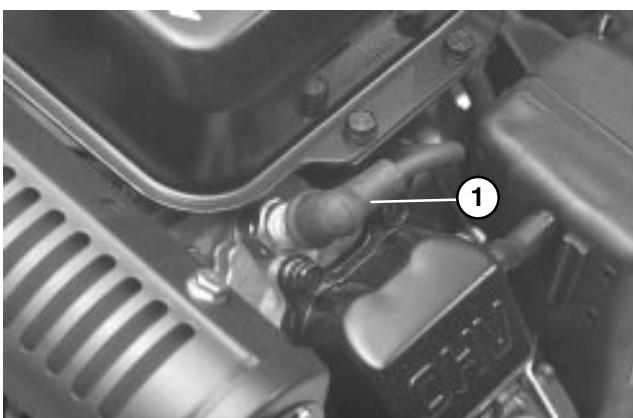

Figure 30
- 2. Clean around spark plug and remove plug from cylinder head (Fig. 30)